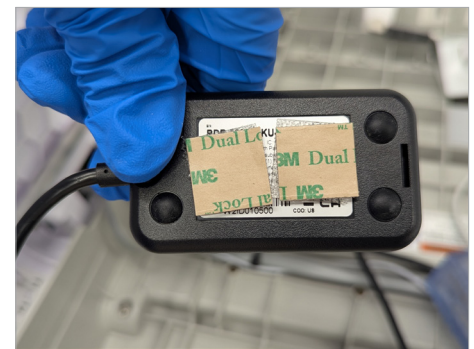

Figure 4
5. Peel one of the backing paper on two sets of **DUAL LOCK STICKERS** (H-DUAL-LOCK-CN) and add two sets on the back of the **RFID MINI READER**. Do not peel the other side. (**Figure 4**).